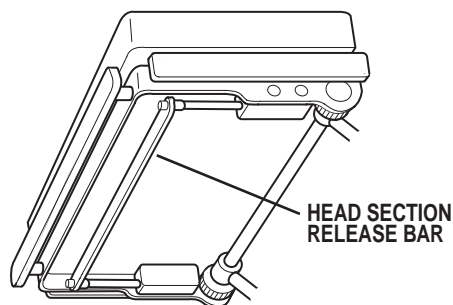

Figure 3-13. Head Section Adjustment
a. A quick release positioning bar located under and to the front of the head section (figure 3-13) is used to raise or lower the head section. Pull the release bar toward the head end to allow the section to pivot up or down. Positioning from 60° above horizontal to 90° below horizontal in 15° increments is available. Release the bar to lock the head section in position.